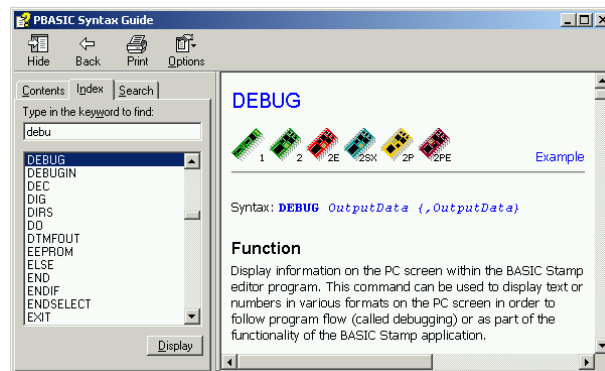

Figure 1-45
- ✓ Type **DEBUG** into the field labeled Type in the keyword to find: (shown in Figure 1-45).